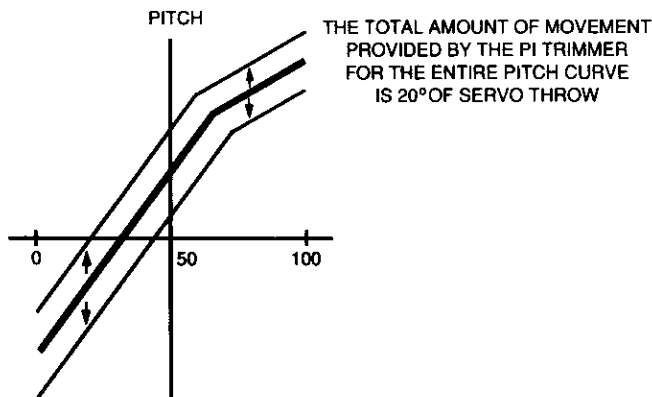

FIGURE 33
- If Idle-Up has not yet been used, set PITCH I, Idle-Up I switch (25) to "ON" and PITCH 2, Idle-Up II switch (26) to "ON" and then switch to PITCH 3 with the Pitch Curve Select Switch (21).
6. To move the entire pitch curve: The overall pitch trim control is provided to permit moving the entire pitch curve up or down the desired amount. This operation does not require adjustment of the rotor head pitch link to increase or decrease the pitch. (See Figure 33; the amount of movement is 20% of the servo movement).